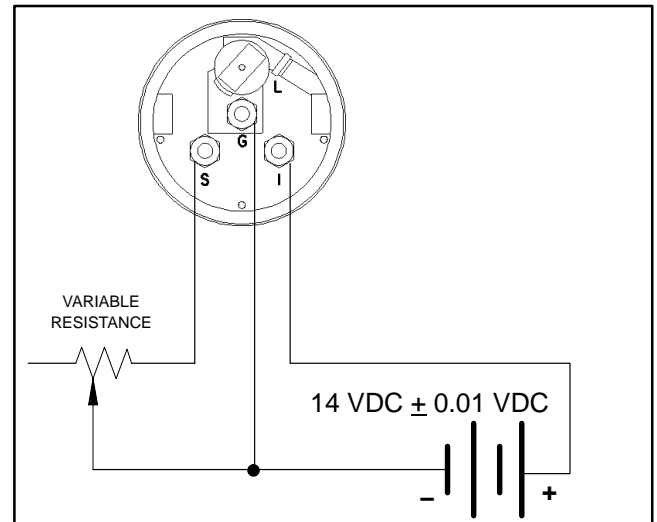

Figure 29
1. Connect fuel gauge to the variable resistance and DC voltage source (Fig. 29).
1. Connect temperature gauge to the variable resistance and DC voltage source (Fig. 29).